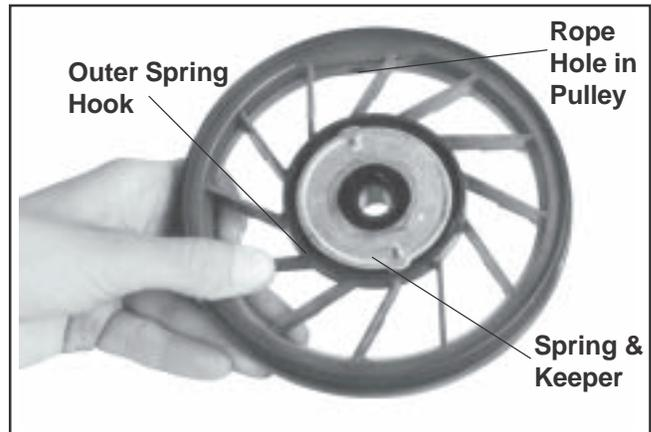

Figure 7-8. Position of Spring, and Keeper in Pulley.
9. Note the position of the spring and keeper assembly in the pulley. See Figure 7-8.
1. Make sure the spring and center shaft are lubricated with grease. Place the spring and keeper assembly inside the pulley (with spring toward pulley). See Figure 7-8.